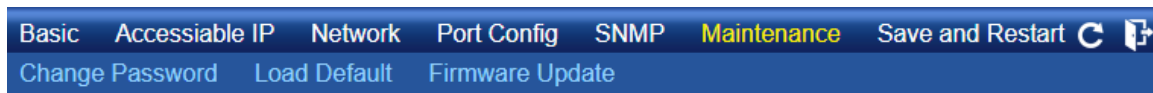

Figure 3-2-4: Main menu
5. The Main Menu in the middle of the Web page lets you access all the functions and statuses. It appears as shown in Figure 3-2-4.